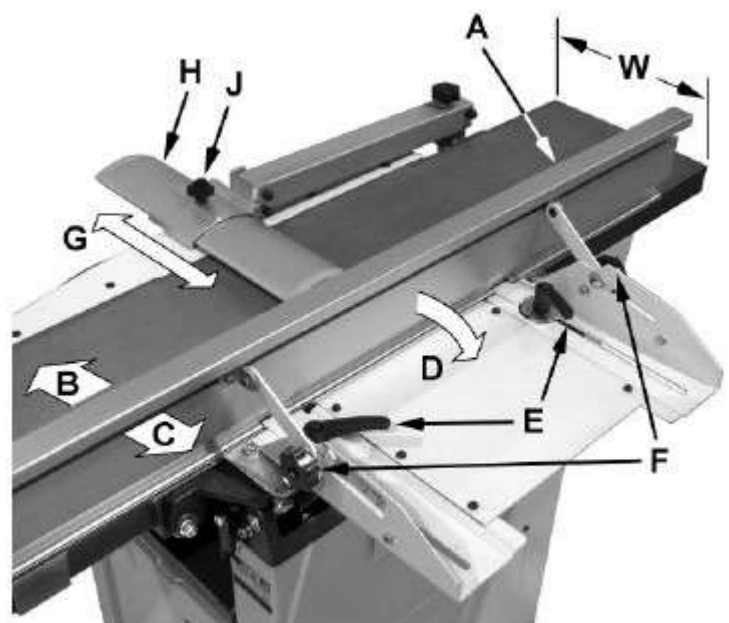

Figure 7
Referring to Figure 7:
6. Raise the infeed table (G) until it contacts the straight edge (D). The straight edge should lie level across both tables. Move the straight edge to the back of the outfeed table as shown in Figure 7 and perform the same test.